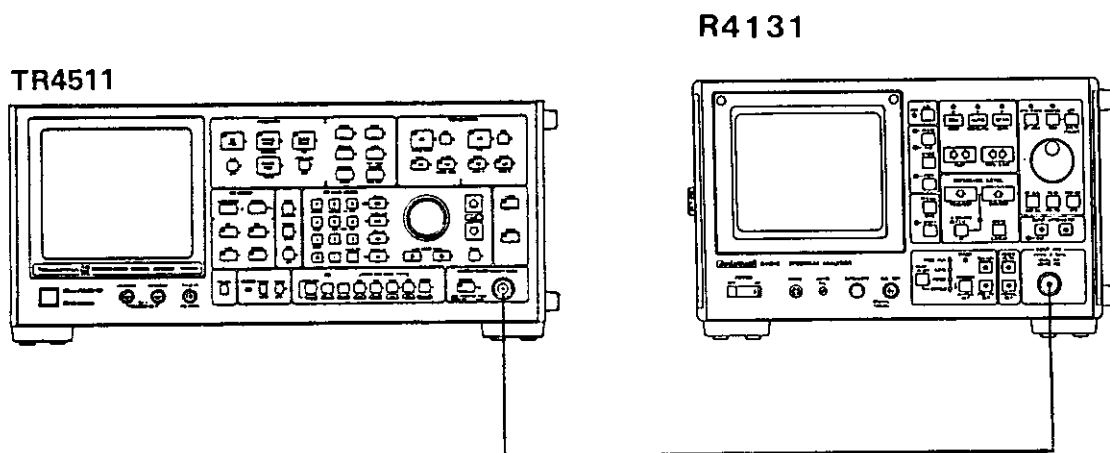

Figure 11-14 Resolution Bandwidth Selectivity Test Setup
- ② Set the synthesized signal source to 200 MHz (CW), -10 dBm. Connect the spectrum analyzer and the synthesized signal source to each other as shown in Figure 11-14.
- ③ Press the SPAN switch to activate the frequency span. Reduce the span while turning the TUNING dial to adjust the signal to be in the center of the display screen. Select the minimum span that allows the two points 60 dB lower than the signal peak to be observed on the screen.